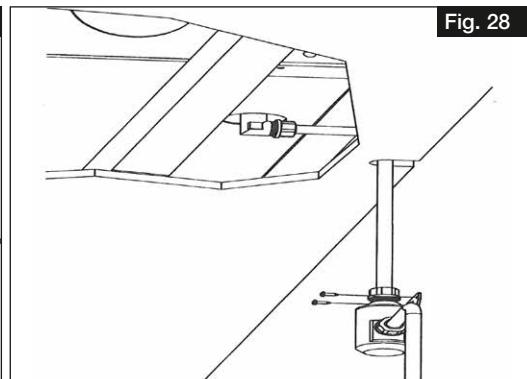

Fig. 28
- > The condensate hose from the ball siphon must have a downward gradient, openly dripping into a funnel siphon and must not be discharged into a closed system (see Fig. 28).